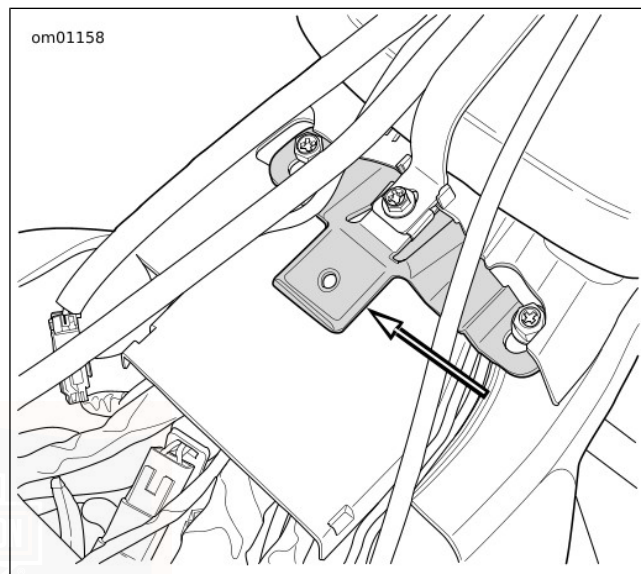

Figure 104. Seat Tongue
3. See Figure 104. While pushing seat forward, raise rear of seat until bracket clears top of body assembly. Push seat rearward slightly to free seat from tongue on rear fuel tank bracket.
4. See Figure 104. While pushing seat forward, raise rear of seat until bracket clears top of Tour-Pak. Push seat rearward slightly to free seat from tongue on rear fuel tank bracket.